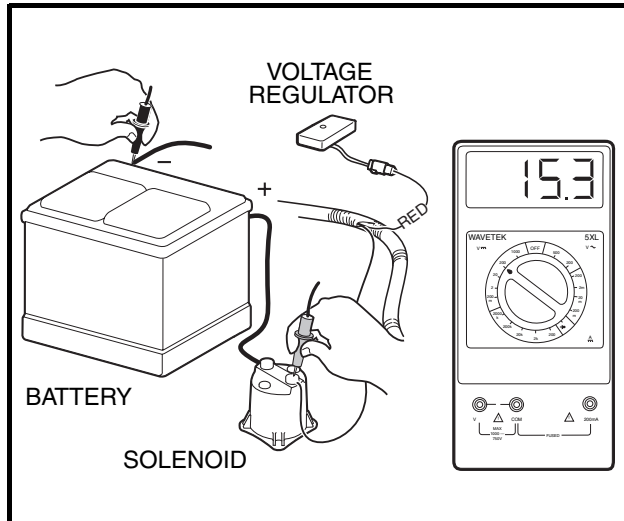

Figure 11-21 Voltage Regulator Test
5. Turn the key switch to OFF, killing the engine. Using a multimeter set to 20 volts DC, place the red (+) probe on the large post of the solenoid with the red and white wires crimped together from the voltage regulator attached. Place the black (-) probe on the negative (-) battery post (**Figure 11-21, Page 11-23**). Turn the key switch to the ON position. Press the accelerator to start the engine and run it at full governed speed. If the reading is between 14.7 and 15.3 volts, the regulator is good. If the reading is lower than 14.7 volts but rising steadily, check battery condition. **See Hydrometer Test on page 11-12.** If the reading is lower than 14.7 volts and not rising, and the starter/generator is good; or if the reading is over 15.3 volts and continues to rise, replace voltage regulator. **See Voltage Regulator Removal, Section 12, Page 12-12.**